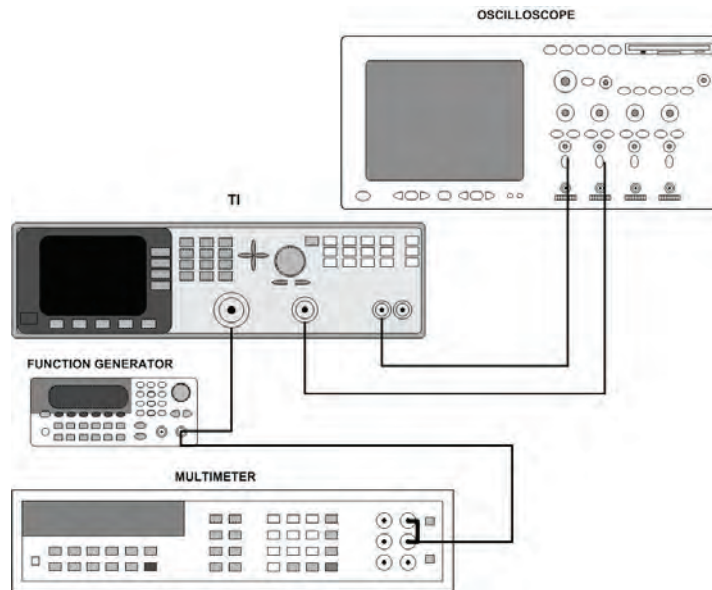

Figure 1. External In threshold accuracy set up.
- (1) Connect equipment as shown in figure 1.